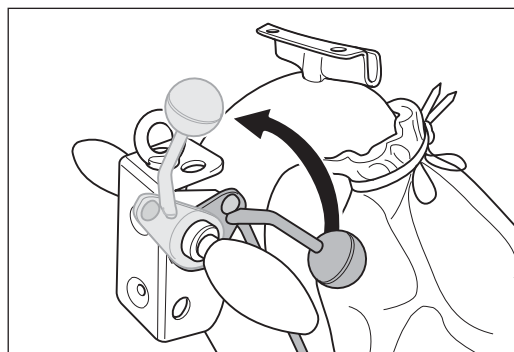

Fig. 14 Lift the sanding drum off the floor by turning the lowering lever at the handle upwards.
- **Always** lift the sanding drum off the floor before switch on the machine (Fig. 14)!
- 1 Lift the sanding drum off the floor by turning the lowering lever at the handle upwards (Fig. 14).
- 1 **Lift the sanding drum off the floor by turning the lowering lever at the handle upwards (Fig. 14)!**